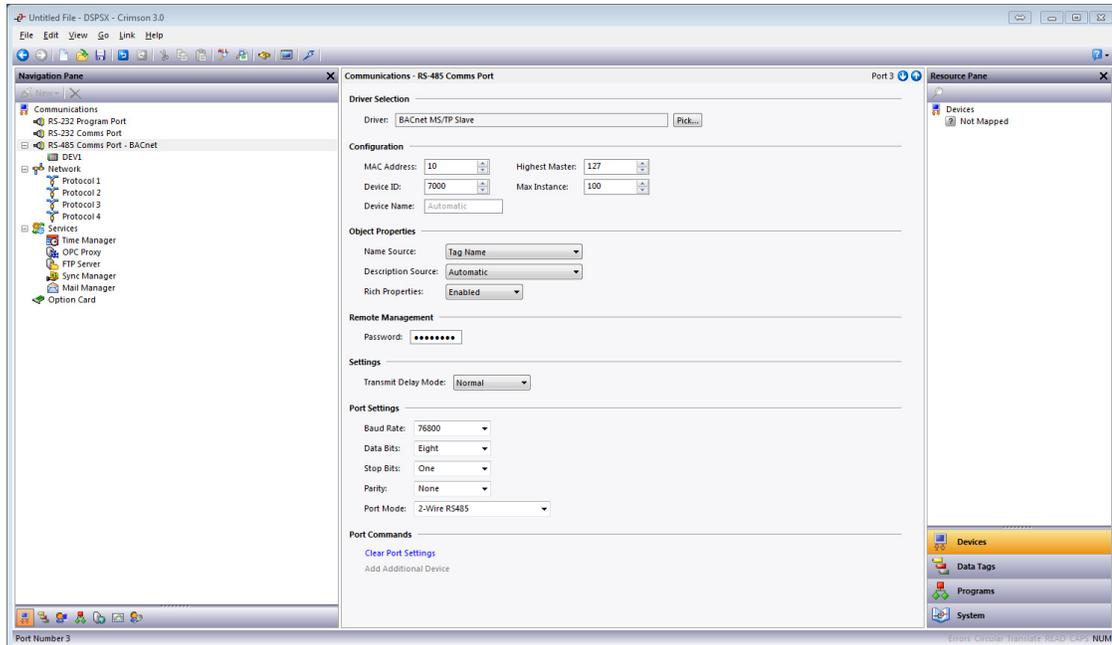

Figure 2.
5. Referring to Figure 2, configure the port settings to match the device with which the unit will be communicating: